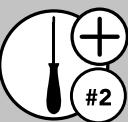

FIG. 1
Install the bottom shelf with the (3) pilot holes located toward the front of the pantry, then insert (4) dowels into the bottom shelf assembly (See Fig. 1).